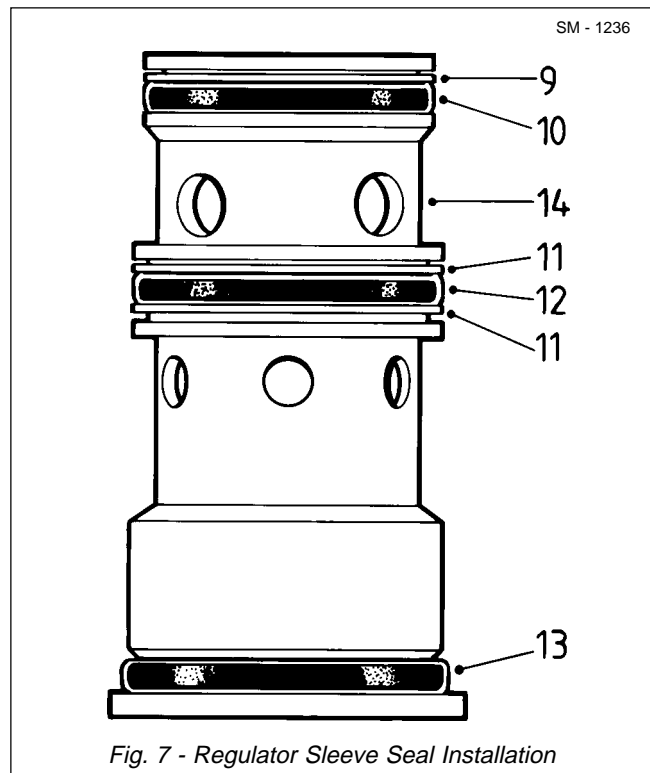

Fig. 7 - Regulator Sleeve Seal Installation
1. Install 'O' ring (10) onto the smallest groove (on the top) of regulator sleeve (14). Install 'O' ring (12) onto the middle groove of regulator sleeve (14). Install 'O' ring (13) onto the largest groove (on the bottom) of regulator sleeve (14). See Fig. 7.
2. Install backup ring (11) onto each side of 'O' ring (12) located in the middle of regulator sleeve (14). See Fig. 7.
3. Install backup ring (9) behind 'O' ring (10) located at the top end of regulator sleeve (14). 'O' ring (10) is the smallest of the three 'O' rings. Position backup ring (9) so that it is next to the top of regulator sleeve (14). The top of regulator sleeve (14) is the end with the smallest OD. See Fig. 7.